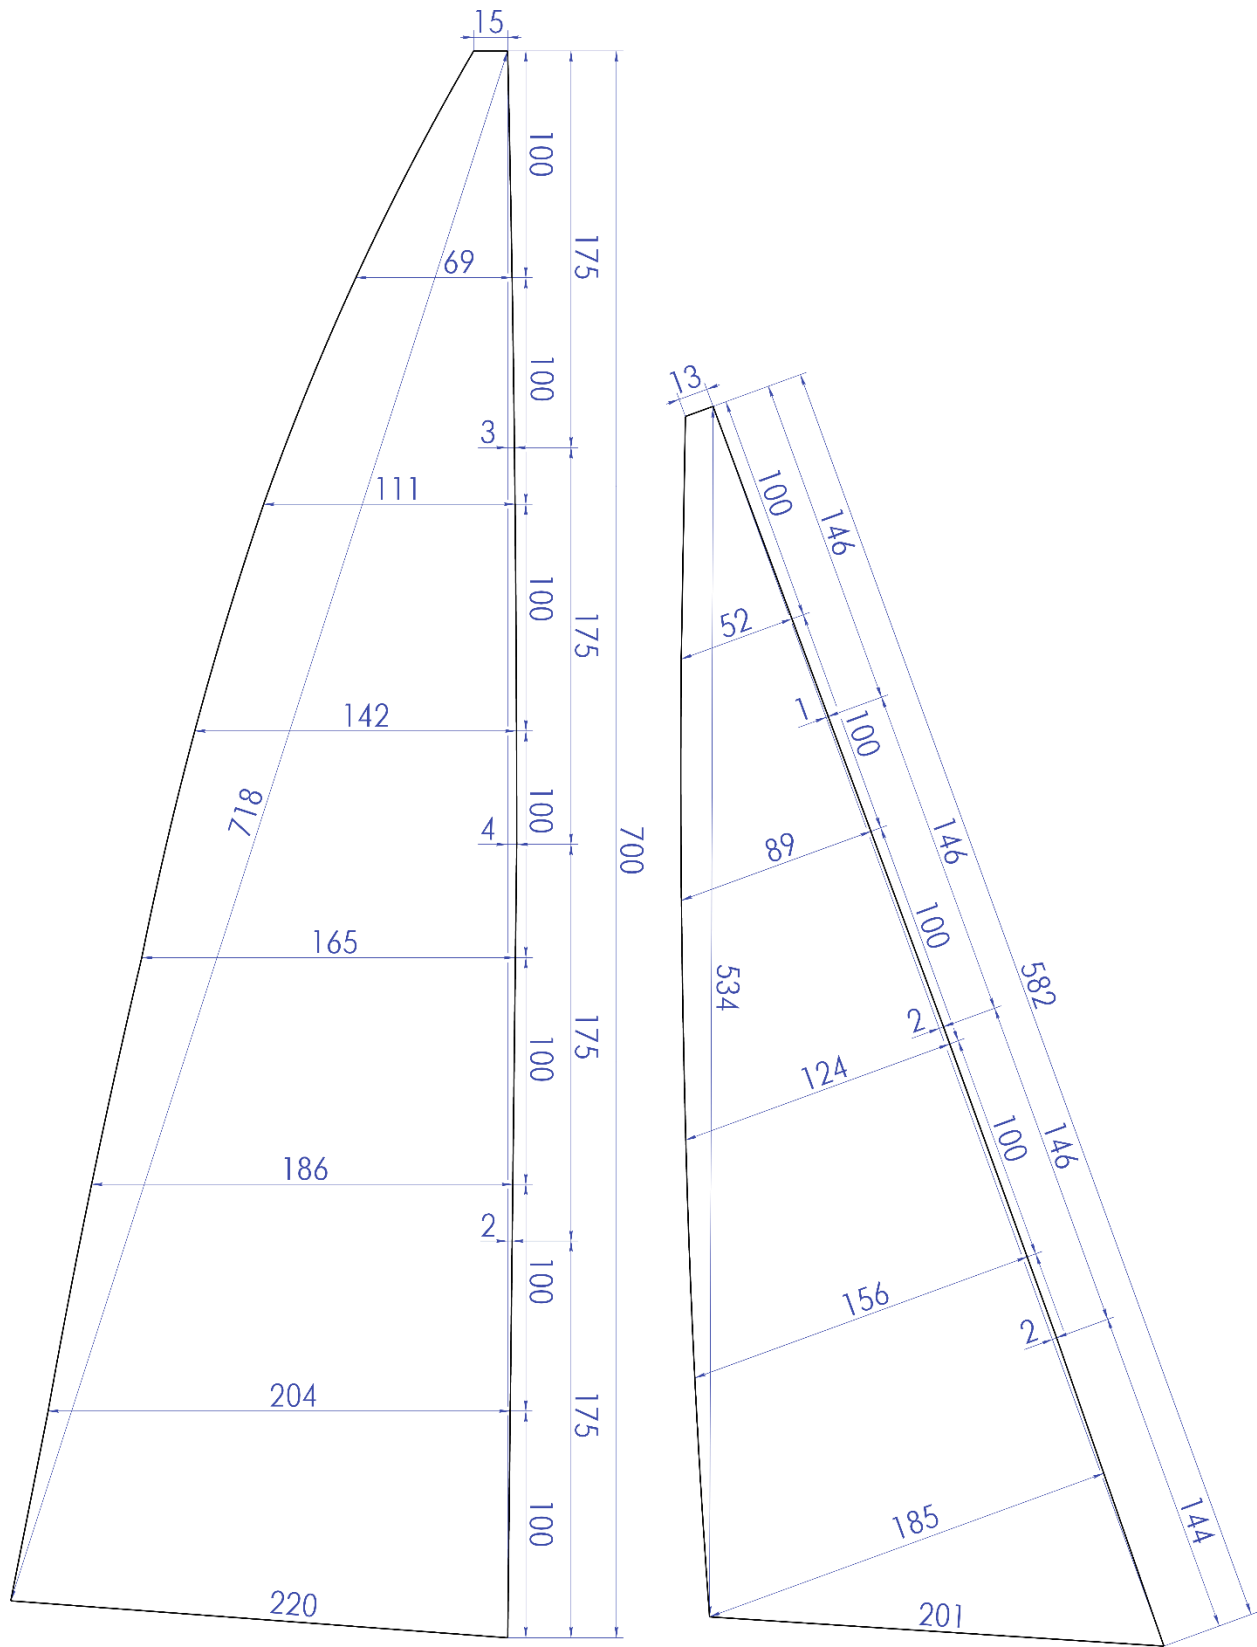

Figure 4: Sail Plan
- 5.2 Smaller sails are allowed, as long as they fit within the maximum limits as shown in figure 4.